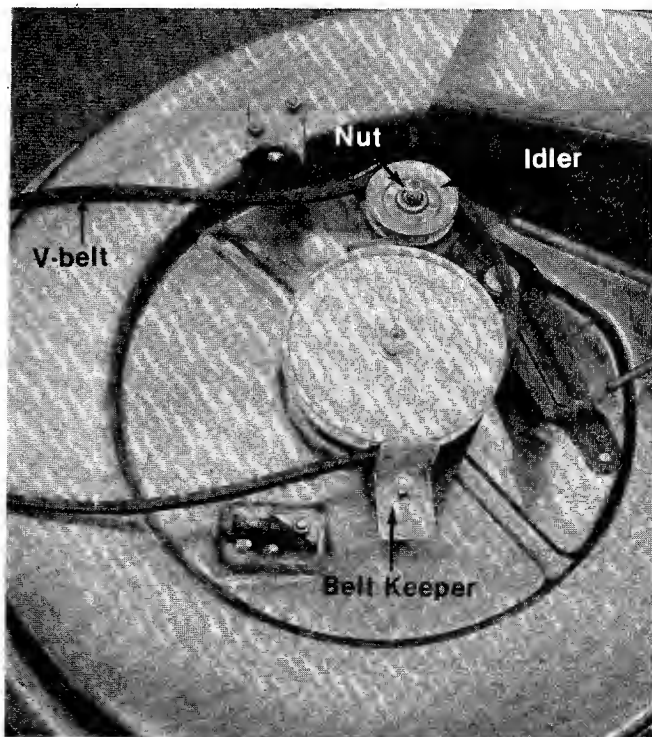

FIGURE 36.
3. Remove the belt keeper on the cutting deck. See figure 36.
4. Remove the nut from the idler on the cutting deck and remove the idler. See figure 36.